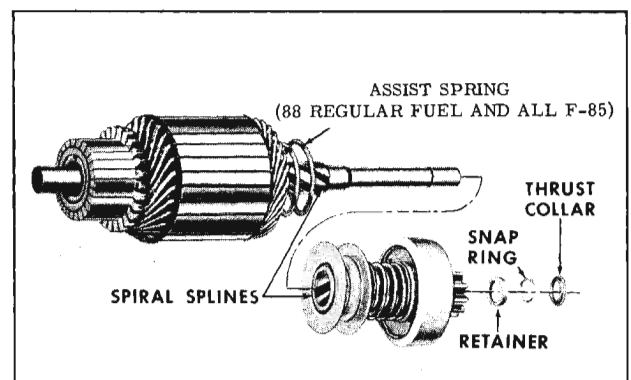

Fig. 14-35 Overrunning Clutch
- b. Slide clutch assembly onto armature shaft with pinion away from armature. (Fig. 14-35)